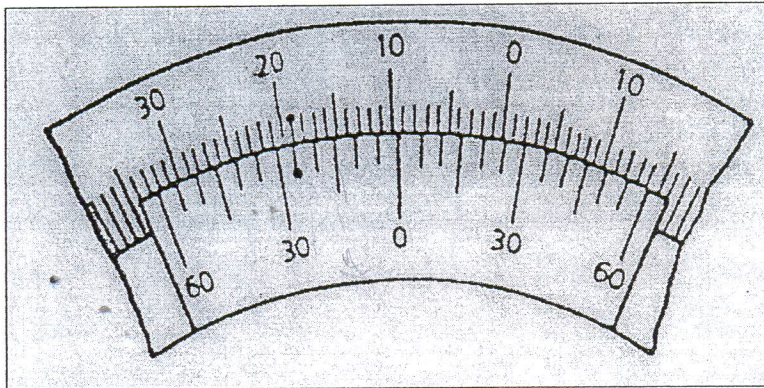

Figure 1.1: Universal Bevel Protractor
- (a) Determine the measurement reading for angularity by the following metrological instrument as illustrated in Figure 1.1: